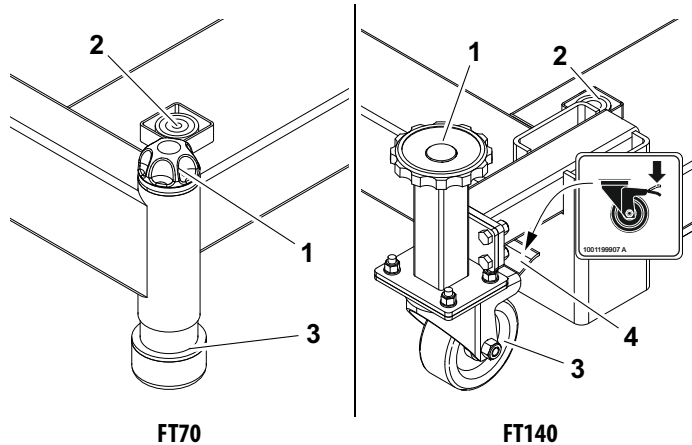

Figure 3-16. Base Leveling
- a. **FT70** - Push down on the base frame's step plate until the front swivel castor retracts and the base sits on the adjustable feet at the front of the machine (See Figure 3-16.).
(See Figure 3-16.).